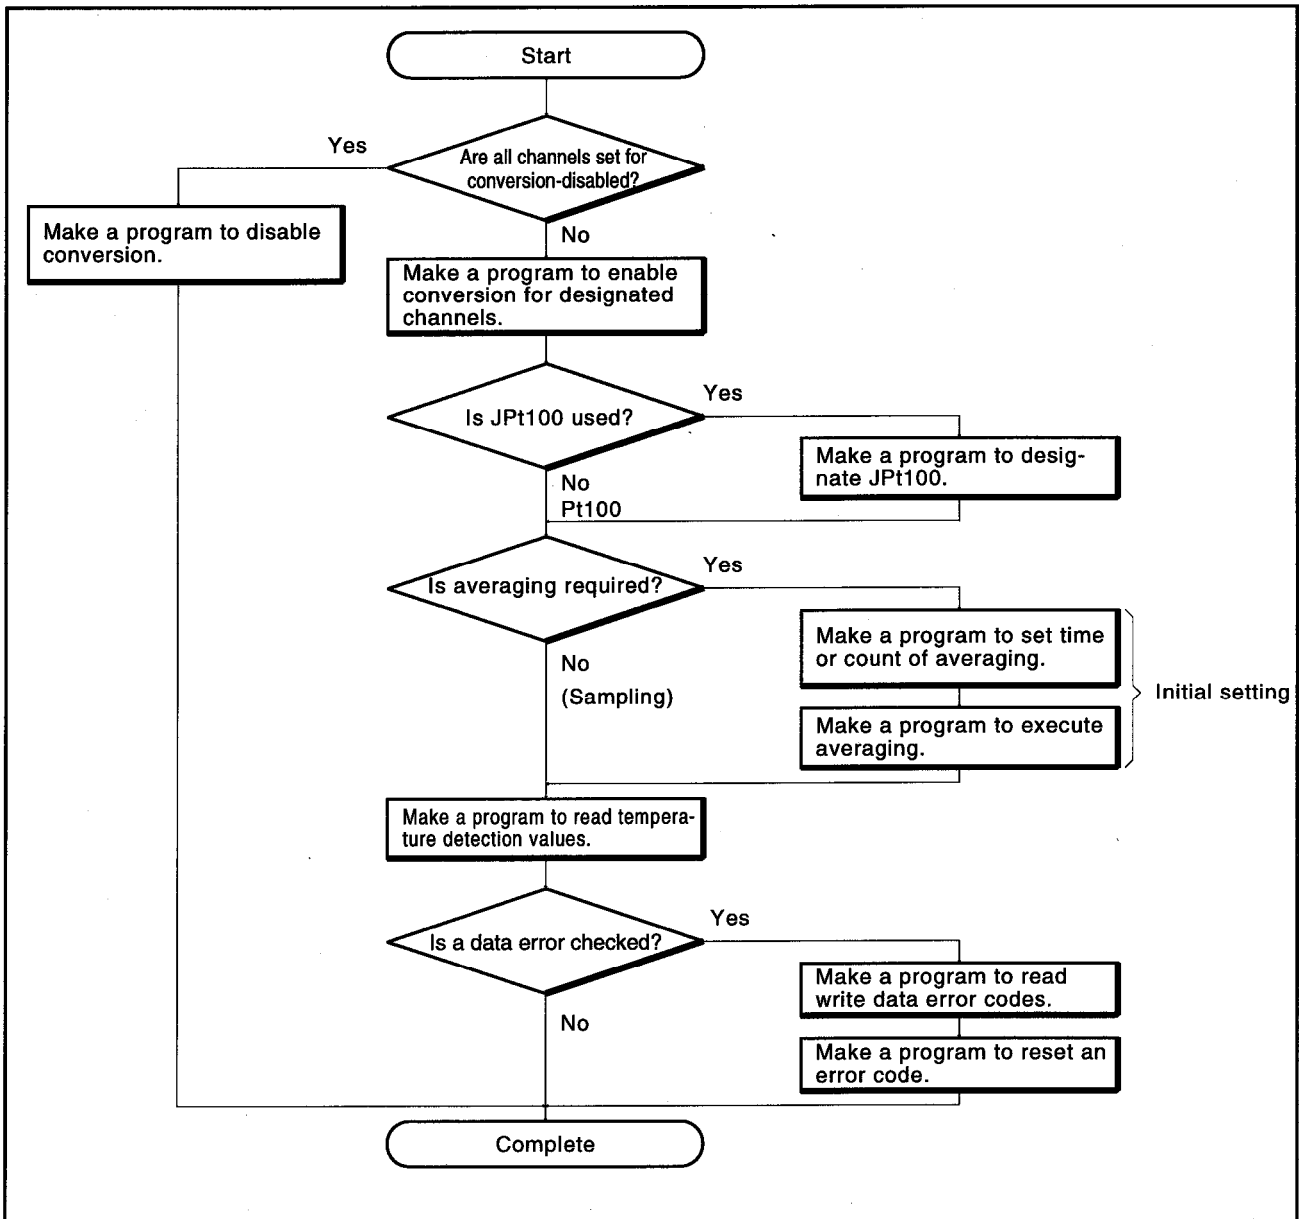

Fig. 5.1 Programming Procedure
Figure 5.1 shows the procedure for writing a program to execute data write/read between a PLC CPU and an RD3N4N.
- (1) Initial setting must be done as indicated in Figure 5.1. If averaging processing is designated before setting the time or count of averaging, a write data error may sometimes occur. It is recommended that the initial setting be executed by a batch write instruction.
- (2) Access from the PLC CPU takes priority among various types of processing of the special function module. If access from the PLC CPU to the buffer memory of the special function module is gained frequently, not only the scanning time of the PLC CPU will be prolonged but also the various types of processing of the special function module will be delayed. Carry out the access from the PLC CPU.
- (3) For the type designation of the platinum resistance thermometer, see Section 3.3.6.